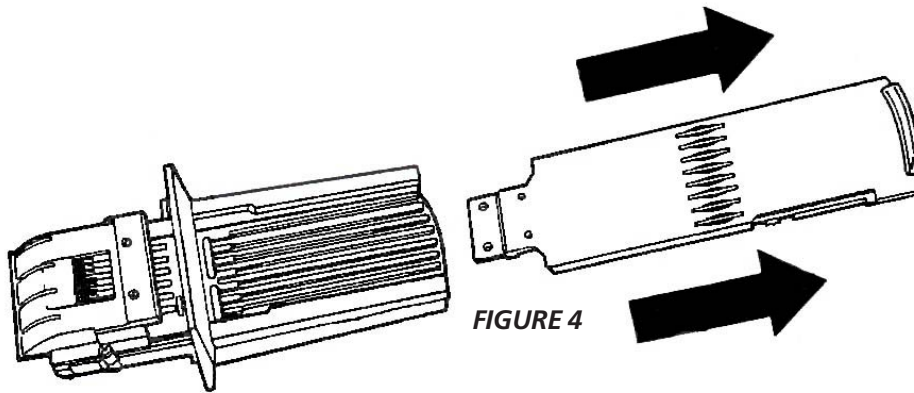

FIGURE 4
- Pull coin slide out of coin chute (see FIGURE 4).